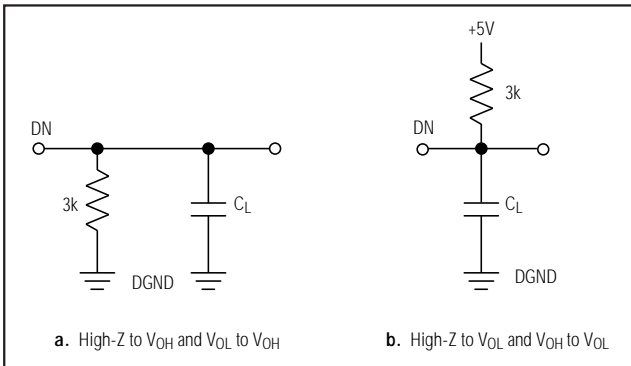

Figure 1. Load Circuits for Access Time
- Note 15:** t_3 and t_6 are measured with the load circuits of Figure 1 and defined as the time required for an output to cross 0.8V or 2.4V.